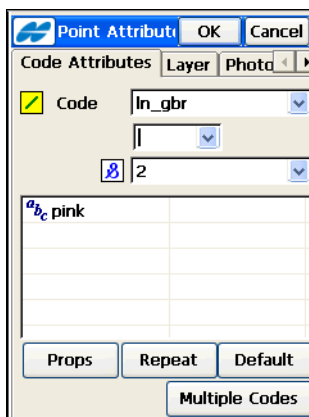

Figure 6-7. Point Attributes
-  – the *Attributes List* icon, opens the *Point-Attribute* screen to set the code and attributes available for the code chosen (Figure 6-7 on page 6-7).
On the Point Attributes screen (Figure 6-7), you can set a code, control code, string and attributes’ values for the point on the *Code Attributes* tab.